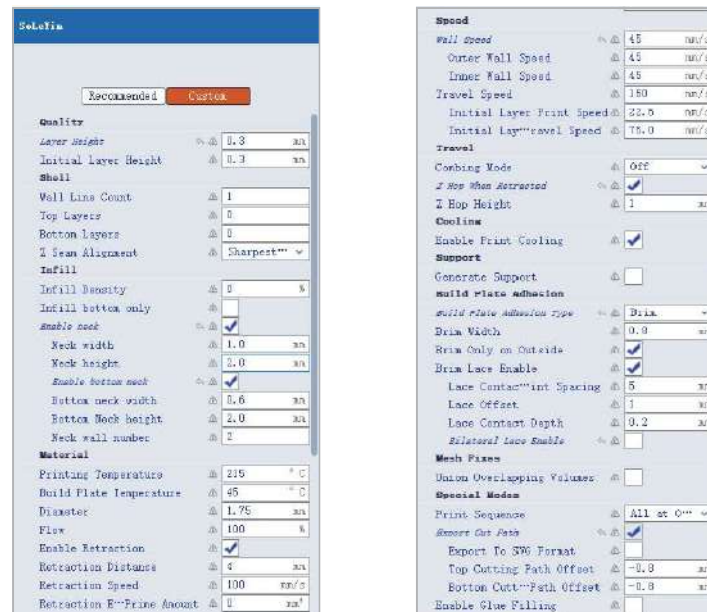

Figure1–20
1. Layer height: the height of a single layer for printing, as shown in Figure 1–21, the smaller the layer height, the more the printing time, but the finer the printing quality. On the contrary, the greater the layer height, the less the printing time, but the poorer the printing quality; it is recommended to set the printing shell layer height below half of the nozzle diameter.